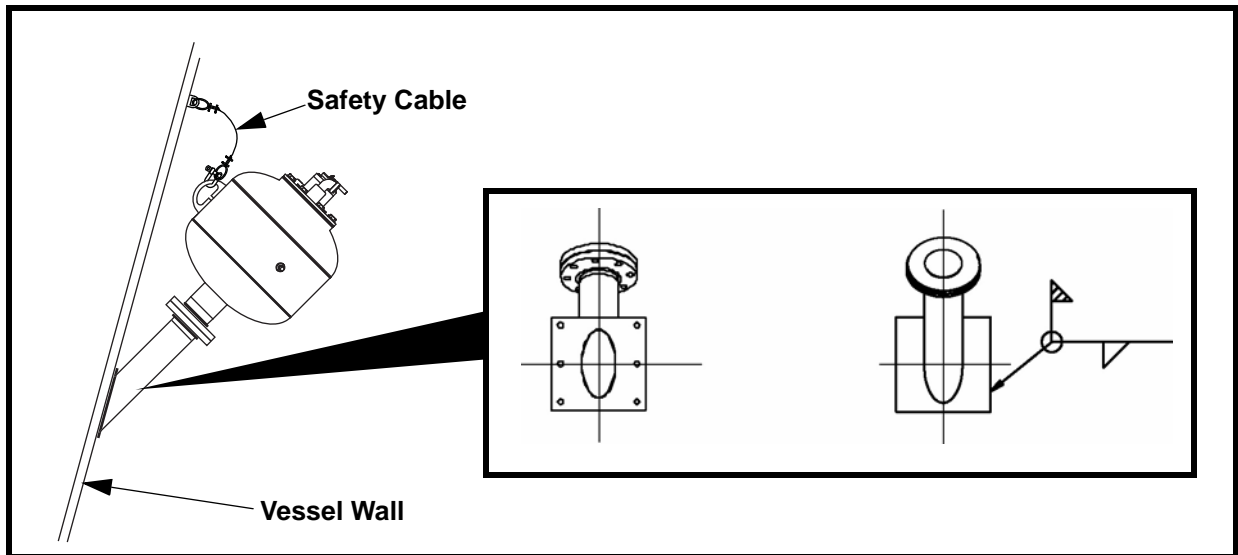

Figure 3. Installing 30-Degree Mounting Plate
- a. If using 30-degree mounting plate (Figure 3), cut hole in storage vessel for each mounting plate using templates on last page of this manual. If templates are missing, contact Martin Engineering or representative. Place mounting plate over hole and field weld to vessel skin.